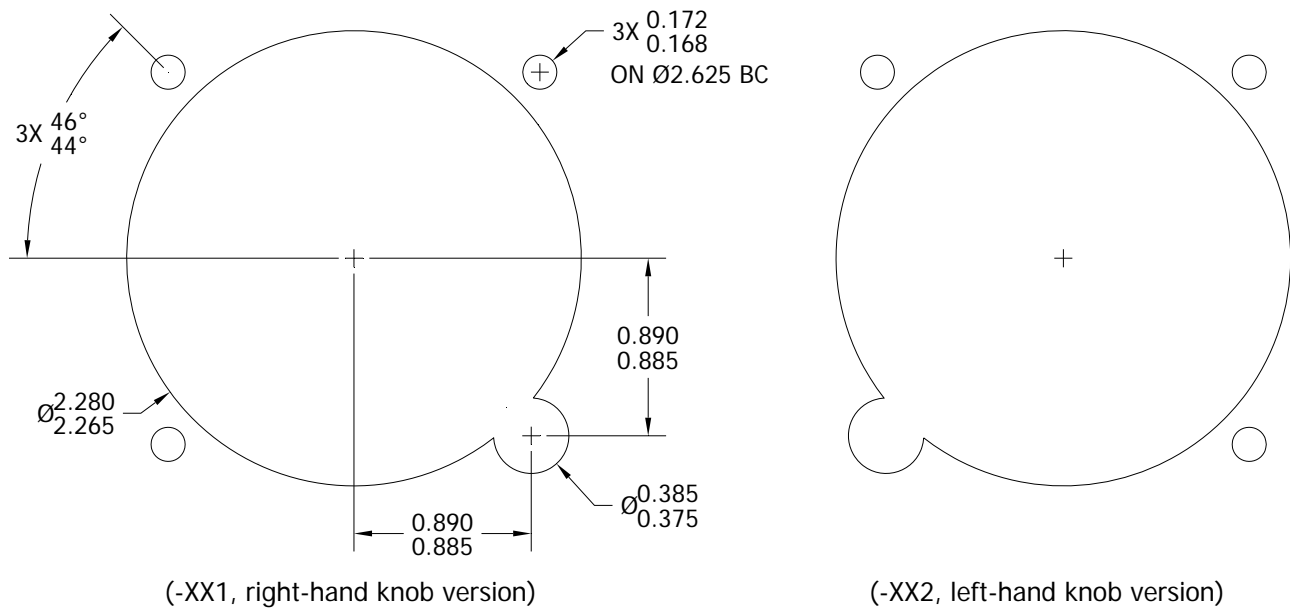

FIGURE 3.2
Mounting:	Rear mount, see panel cutout; Figure 3.2
- A. Ensure the available instrument panel cutout meets the requirements of the indicator. See Fig 3.2